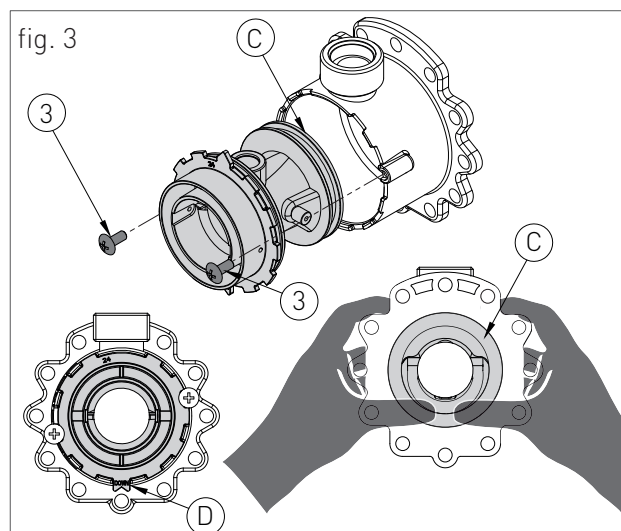

fig. 3
- > remove the two screws '3' (fig.3) and apply pressure on the rear side of venturi 'C' (fig.3);
- > replace the body venturi with the one suitable for the type of supply gas (cod. 30-00424 for methane / cod. 30-00426 for GPL) and make sure the tooth 'D' (fig.3) is adjusted downwards on the aluminium ring nut (see fig.3);